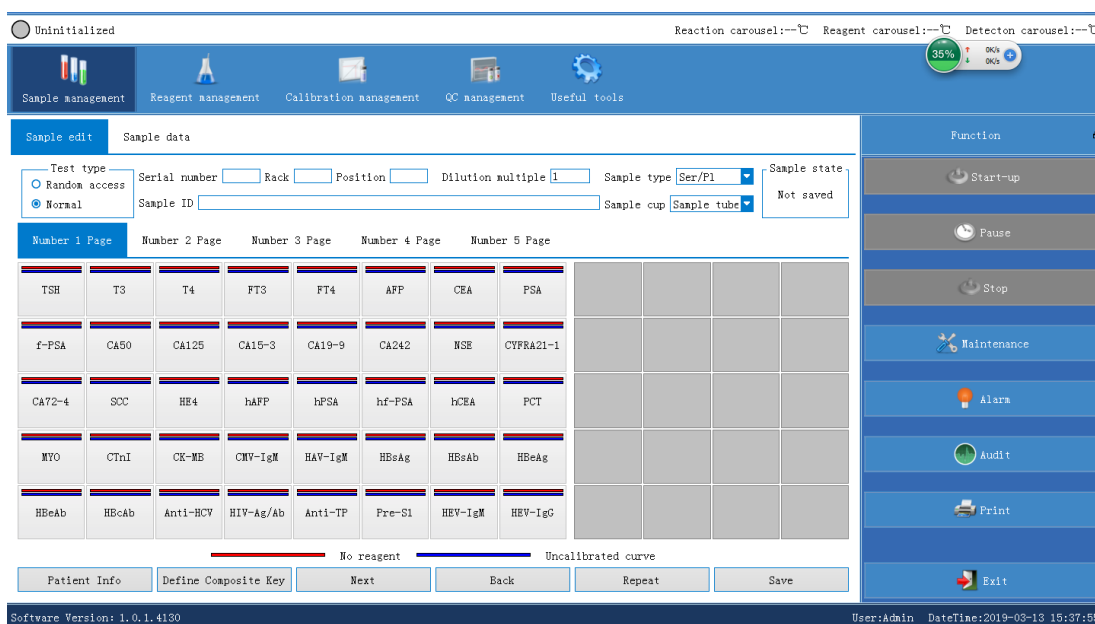
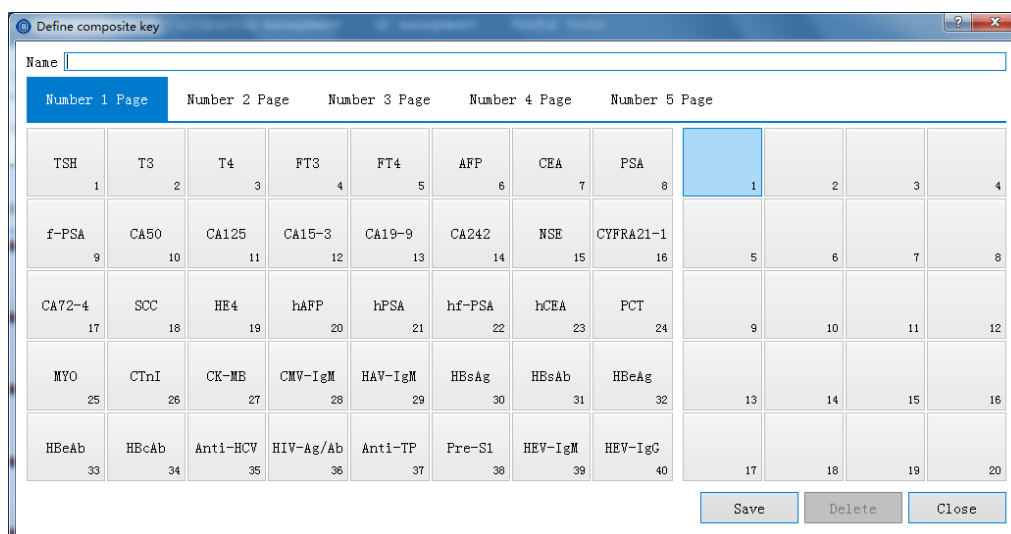
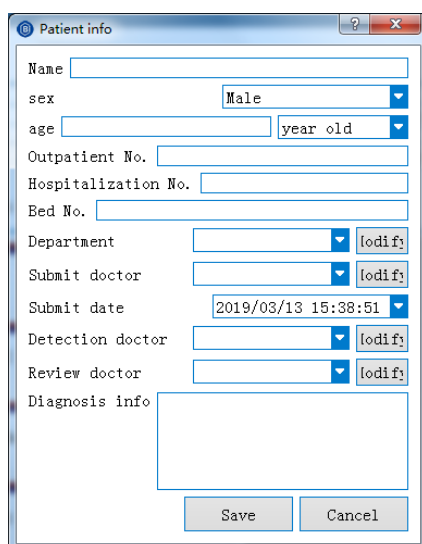

Fig. 8.3.1 Sample edit
Figure. 8.3.3 Define combination key
Figure. 8.3.4 Patient Information
- Select **Sample edit** under **Sample management**. The serial number mode interface is shown in Figure 8.3.1.
- Select **Applications** under **Useful tools**. After the item is added, it will be displayed in the item list as shown in Figure 8.3.1.
- Enter the proper serial number, rack number, position number in the interface of Figure 8.3.1
- After save, the sample information is displayed in the sample data list of the **Sample data** interface. The sample data can be saved either as **Regular** or as **Emergency**, in the upper left part of Figure 8.3.1.
Click **Define combination key** on the interface shown in Figure 8.3.1 to pop up the definition combination interface, as shown in Figure 8.3.3:
Defining combination key includes the item list on the left and the key combination list on the right. Select a blank form from the list of key combinations, select the item to be combined from the item list, enter the combination name, and click **Save**. The key combination is also displayed in the corresponding position in the list of key combinations on the right side of the sample editing interface shown in Figure 8.3.1.
Click **Next** and **Back** on the interface shown in Figure 8.3.1 to view the saved samples info, or enter the serial number of the sample to be viewed in the serial number input box and press **Enter** on the keyboard.
- Click on **Patient info** in Figure 8.3.1, interface will pop up as shown in Figure 8.3.4.
- Click **Save** and then click **Save** in the interface of Figure 8.3.1. The patient information is now saved in the selected sample information.
- Select one or more samples in the sample data list in Figure 8.3.1